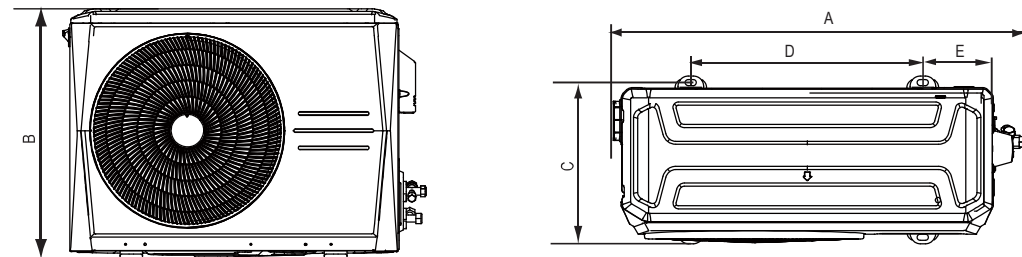
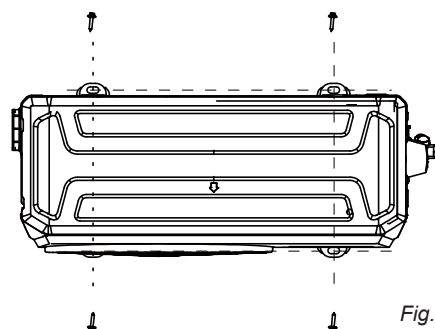

Fig. 4-2
Fig. 4-3
4.1.1 Outdoor unit, see Fig. 4-2, Fig. 4-3 and Table 4-1. (Unit: mm)